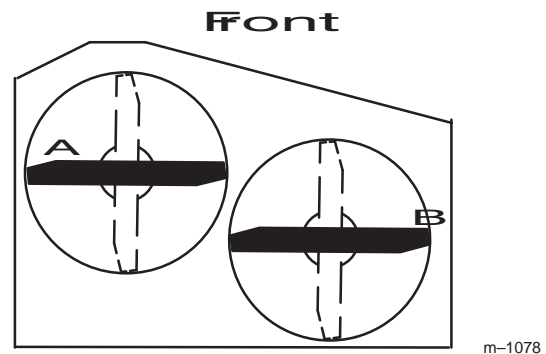
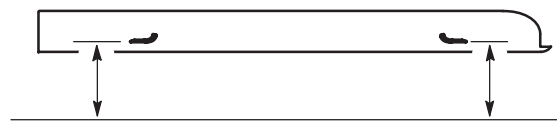

Figure 54
Figure 55
2. Position the blades side-to-side (Fig. 54). Measure at **A** and **B** locations (Fig. 54) from a level surface to the cutting edge of blade tips (Fig. 55).